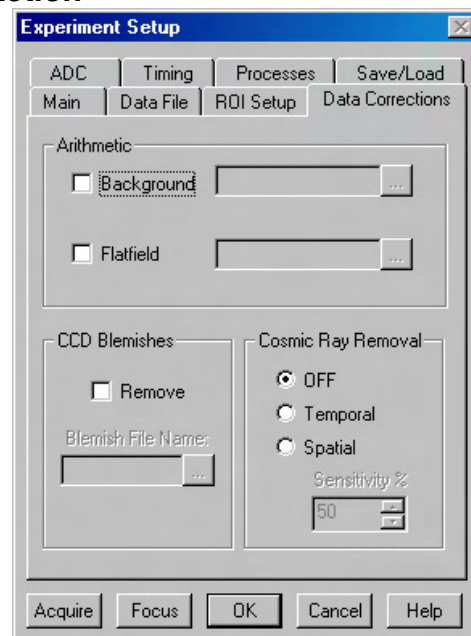

Figure 140. Data Corrections tab page
To acquire a background with the shutter open, or if the Acquire Background feature is too restrictive in some other way, a background file can be collected as a normal data file. Once the file is collected and stored, enter the filename in the Background Subtract filename box on the Experiment Setup Data Corrections tab page (see Figure 140).
2. Click on the Data Corrections tab. The Data Corrections tab page will be selected (Figure 140).
If the Acquire Flatfield feature is found to be too limiting in some way, a flatfield file can be collected as a normal data file. Once the file is collected, enter the filename in the Flatfield Correction filename box on the Experiment Setup Data Corrections tab page (Figure 140).
2. Click on the Data Corrections tab to select the Data Corrections tab page (Figure 140).